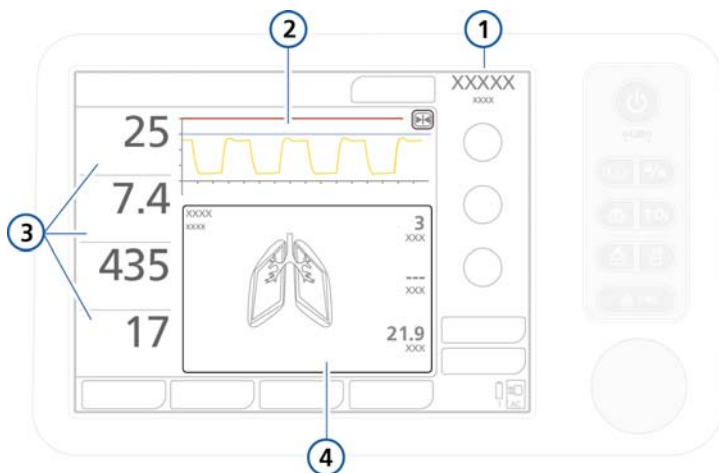

Figure 6-1. Main display
During ventilation, you can view patient data on the HAMILTON-C1 screen (Figure 6-1). You can configure the screen layout with different waveforms, loops or trends, or with Intelligent Panel graphics to suit your institution's needs. Access the Monitoring window at any time without affecting breath delivery.
- The pressure/time waveform. This graph is always displayed and is not configurable. See item 4 in Figure 6-1.